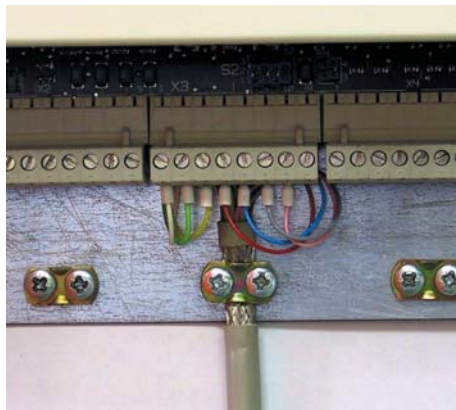
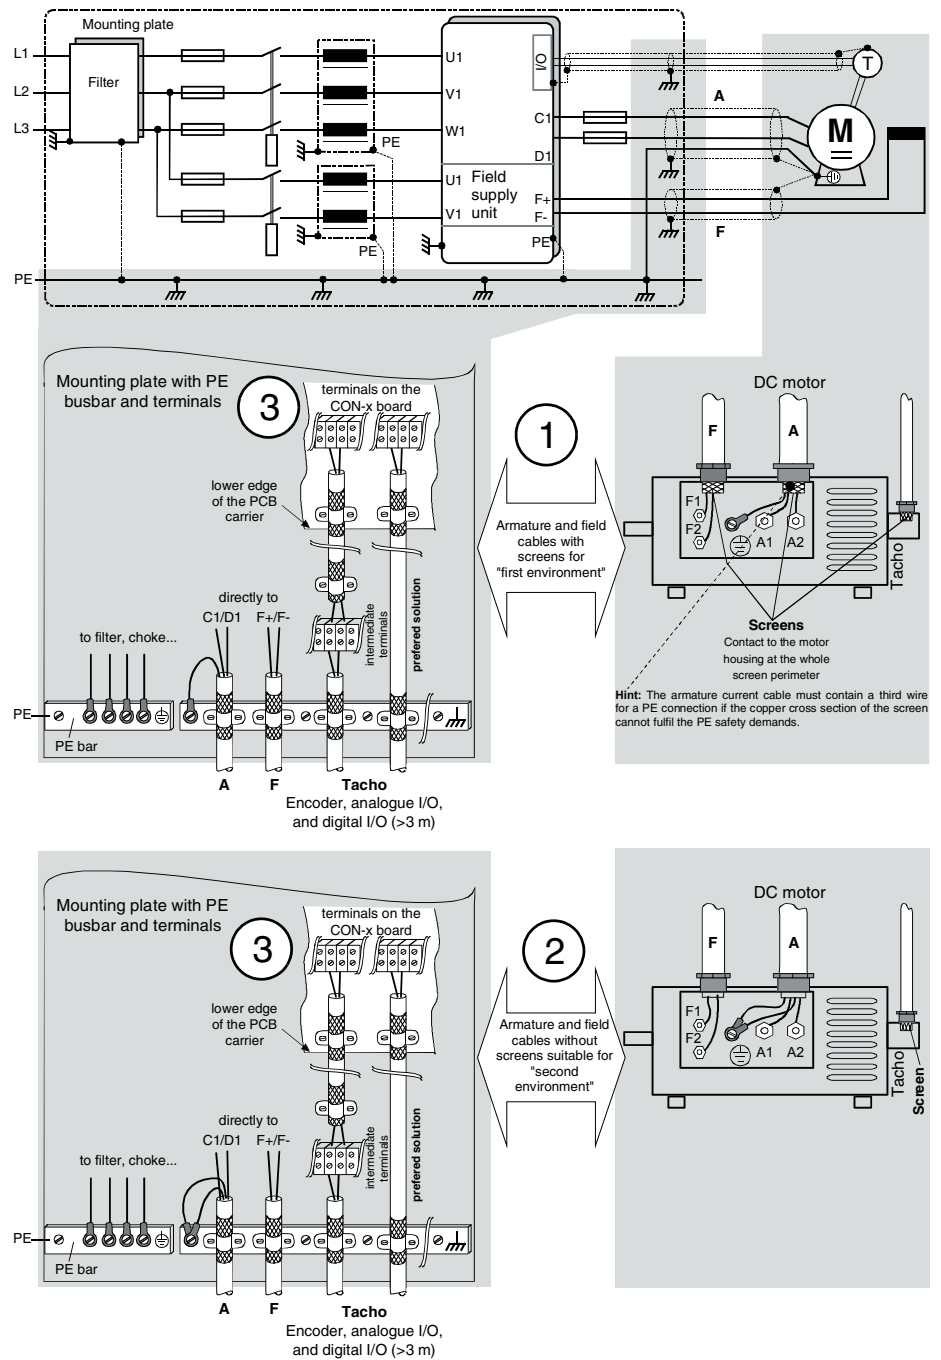

Figure 3-1 Connection of a cable screen with the aid of metal clamp to the metal surface
Figure 3-3 Connection example in accordance with EMC
Control / Signal Cables The cables for digital signals, which are longer than 3 m and all cables for analogue signals, must be screened. Each screen must be connected at **both** ends by metal clamps (see *Figure 3-1*) or comparable means directly on clean metal surfaces, if **both earthing points belong to the same earth line**. Otherwise a capacitor (e.g. 3.3 nF/3000 V) must be connected to earth on one end. In the converter cabinet this kind of connection must be made directly on the sheet metal close to the terminals (see *Figure 3-3* ③) and if the cable comes from outside also on the PE bar (see *Figure 3.3* ① and ②). At the other end of the cable the screen must be well connected with the housing of the signal emitter or receiver.